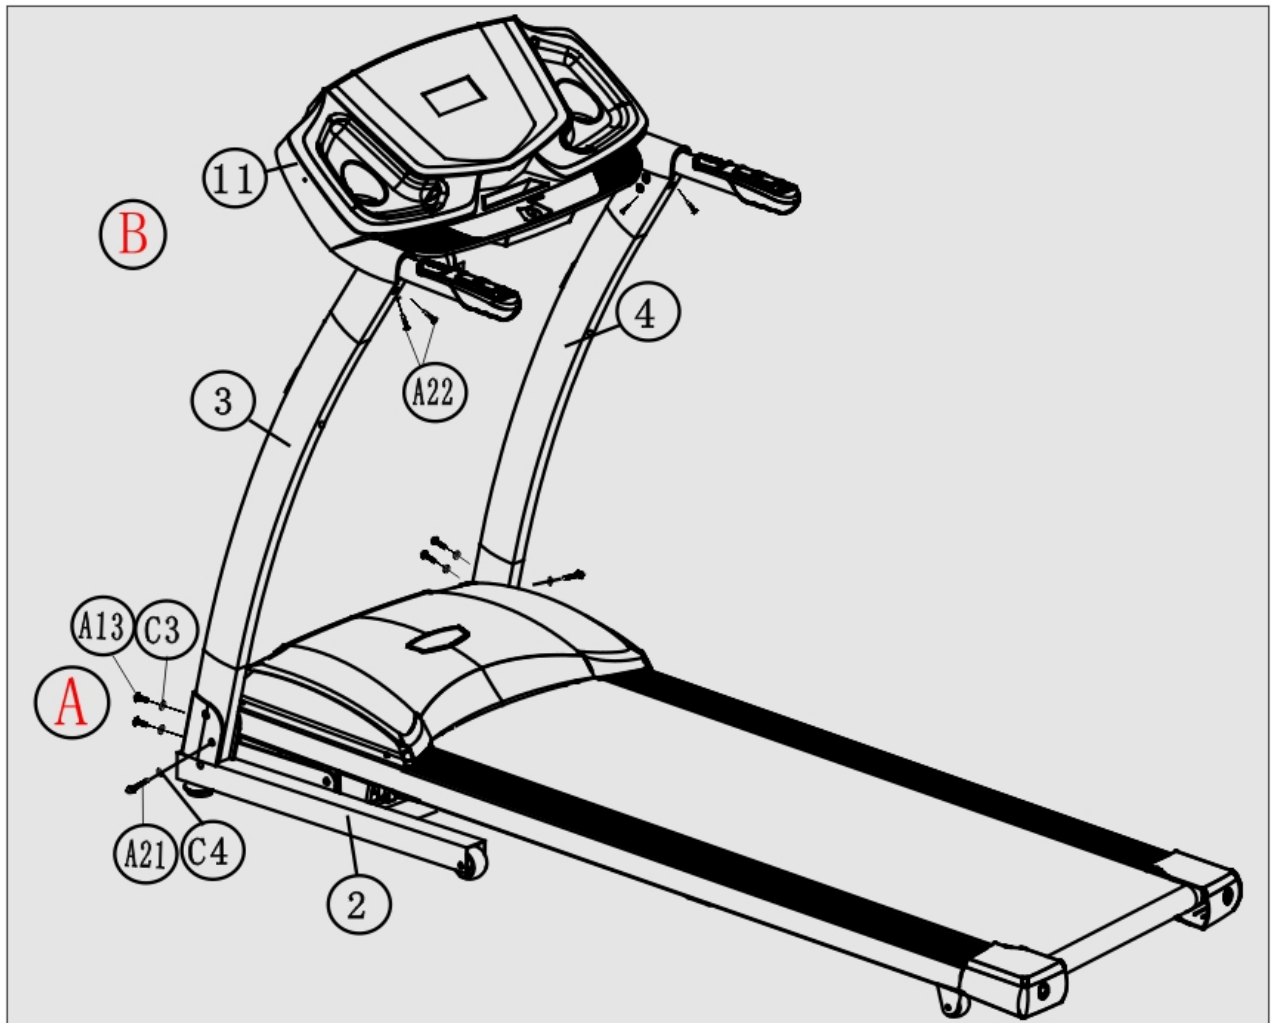

Figure 2
Tighten the computer (11) with the Left & right support tube (3, 4) with 4 sets of bolt M8 x 16 (A22), (See figure 2-B).